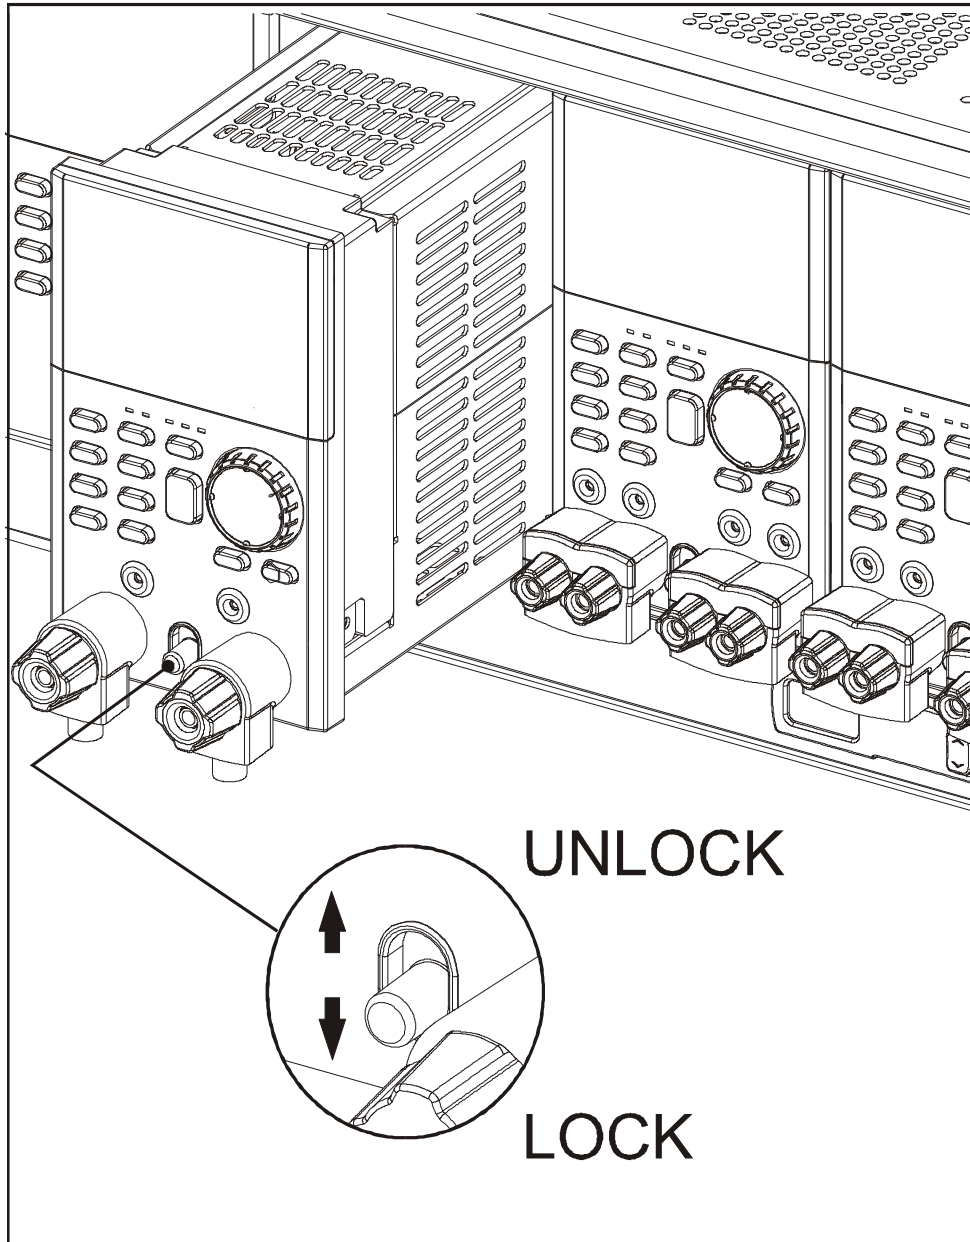

Figure 2-2 Installing Modules in the Electronic Load
3. Start to install the modules in the slot (see Figure 2-2).